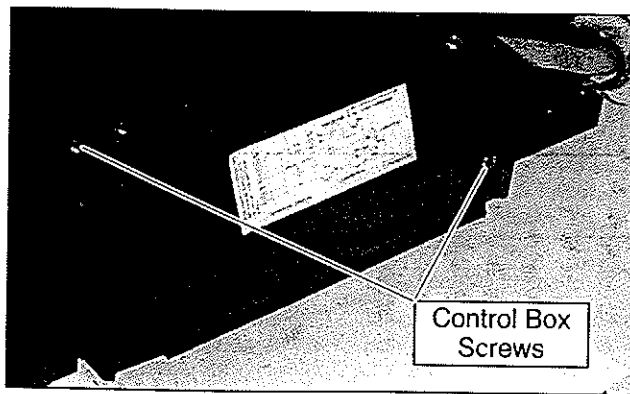

Figure 3-15 Control Box
- b. Remove 2 screws securing control box assembly to the lower scroll assembly. (See Figure 3-15.)